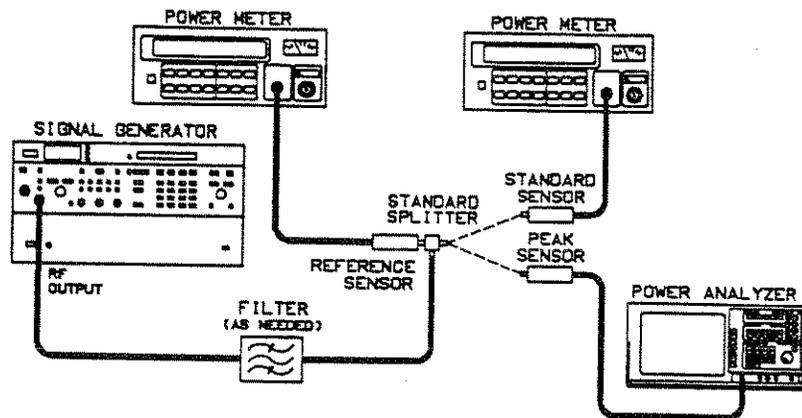

Figure 6-4. Power Level Variation Test
1. Set up your system as shown in Figure 6-4. Connect the Standard Sensor (standards lab calibrated average power sensor) to the calibrated port of the splitter.
9. Replace the standard power sensor and meter with the Peak Sensor (DUT) and HP 8990A Peak Power Analyzer. Refer to Figure 6-4.